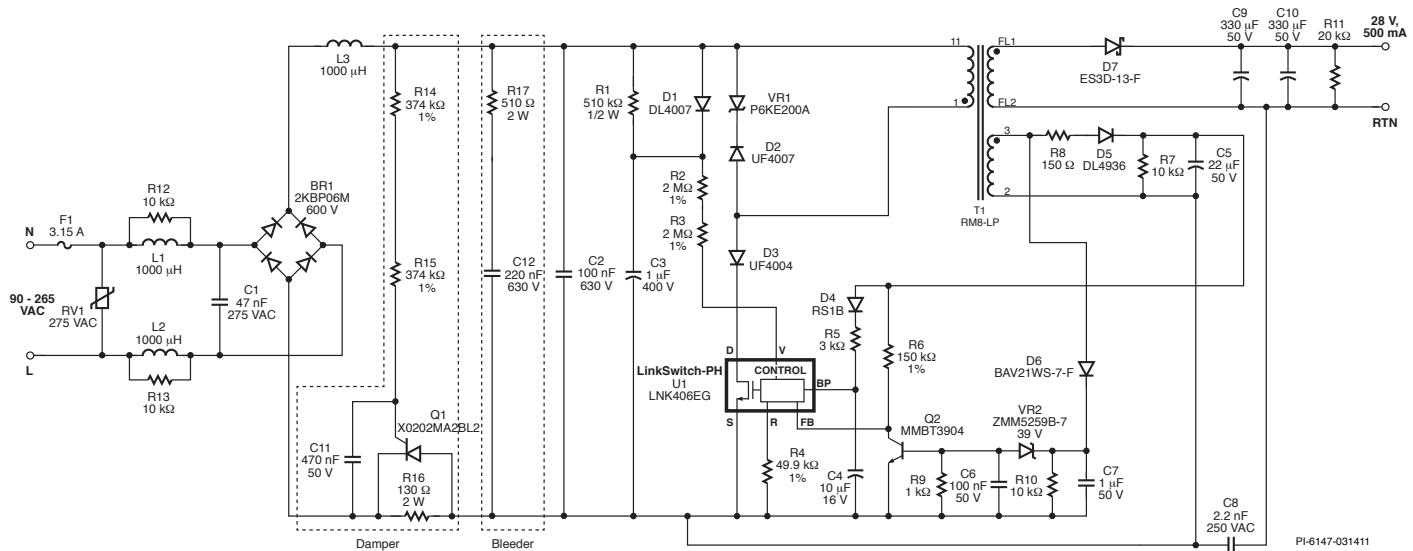

Figure 1. Typical Circuit Example (RD-195) for a Dimmable LED Driver using a LinkSwitch-PH Device.
The circuit in Figure 1 shows the basic configuration of a standard AC TRIAC dimmable LED driver using LinkSwitch-PH. The circuit uses the flyback topology and with the high level integration of LinkSwitch-PH devices, far fewer design issues are left to be addressed externally, resulting in one common circuit configuration for all output specifications. For example, different output power levels may require different values for some circuit components, but the circuit configuration stays unchanged.
- Select either TRIAC dimming (YES) or non-dimming/PMW dimming (NO) configuration [B3]. For TRIAC dimming the value of the R pin resistor (R4 in Figure 1) is 49.9 k $\Omega$ , 1% and for non-dimming 24.9 k $\Omega$ , 1%.
- The value of the R pin resistor (R4 in Figure 1) programs TRIAC dimming or non-dimming. The value for the feedback resistor ( $R_{FB1}$ ) is given in cell [D30]. This is the resistor connected from the FEEDBACK pin to the bias supply and is used to sense the output voltage.